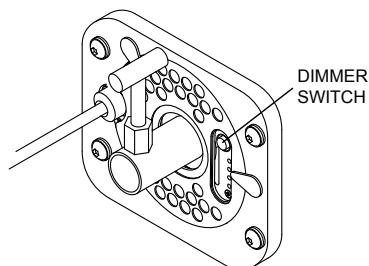
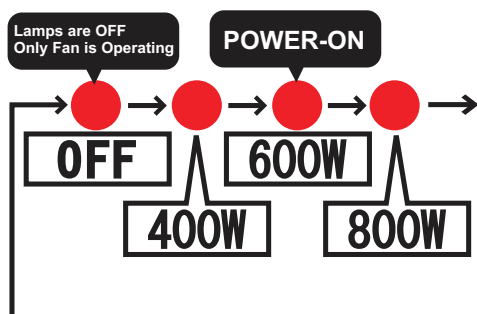

Figure 15. Dimmer Switch
Figure 16. Brightness LED Indicators
1. Press the dimmer switch to control the brightness of the lamp (Figure 15). The lamp can be turned off or set to 400W, 600W or 800W. The corresponding LED will light red when selected (Figure 16).
1. Press and hold the dimmer switch (Figure 15) for 2 seconds. The blue LED in the center of the switch will flash when in silent mode.